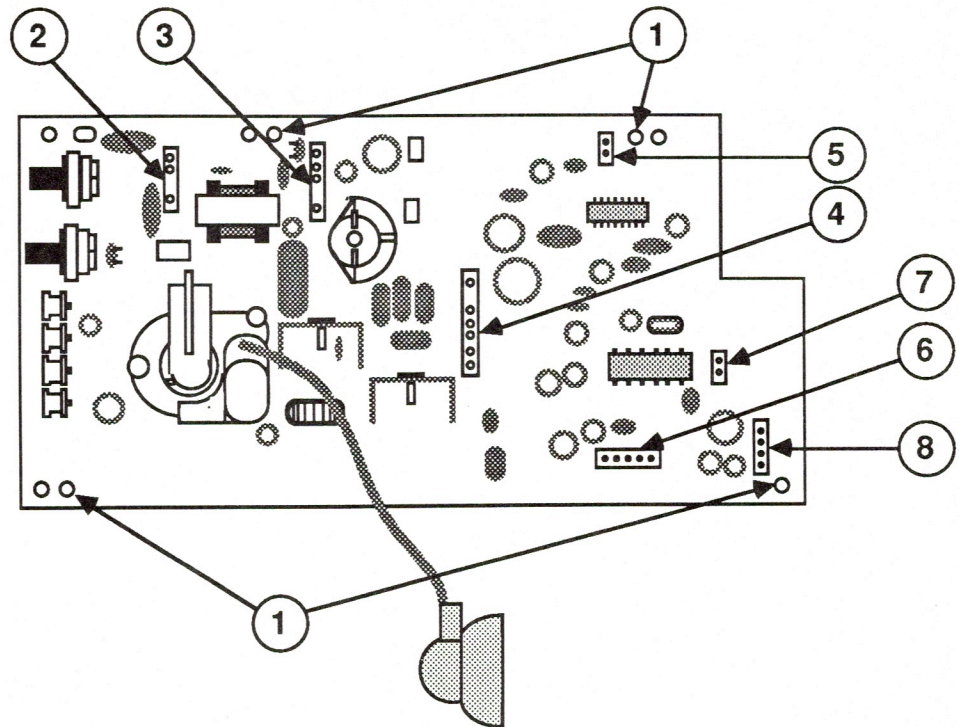

FIGURE 5
- D-4, the four-pin connector from the contrast board (Figure 5, #8)
- D-2, the five-pin connector from the video board "C" (Figure 5, #6)
- D-5, the two-pin connector from the interface connector (Figure 5, #7)
- D-9, the two-pin connector from the LED board (Figure 5, #5)
- D-6, the six-pin connector from the power supply (Figure 5, #6)
- D-8, the four-pin connector from the CRT yoke (Figure 5, #3)
- D-7, the three-pin connector from the video board "C" (Figure 5, #2)
3. Place the logic board against the metal chassis and align the screw holes. Replace the four screws that hold the main logic board in place (Figure 5, #1).